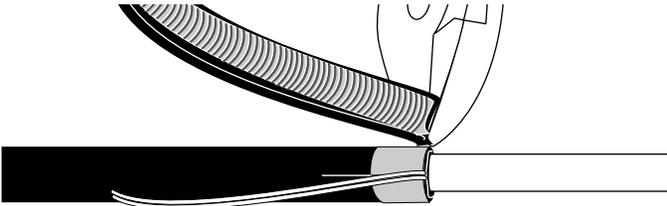

Figure 12
4.13 Carefully flex the sections of sheath and armor, if present, at the ring cut and remove them. Side cutters may be used to help remove the sections (Figure 12).